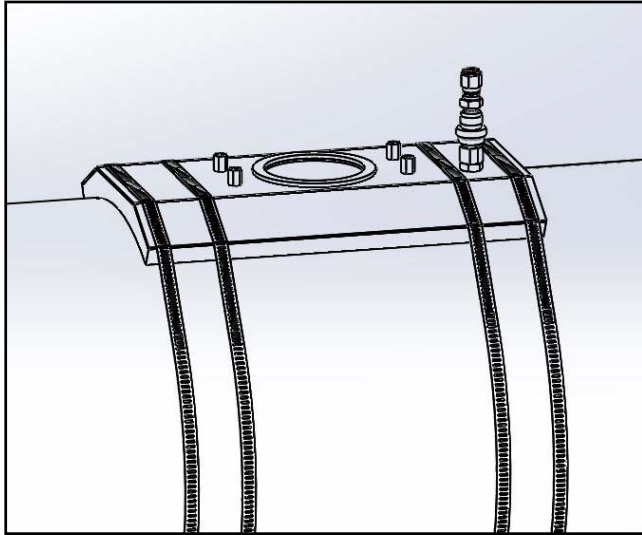

Figure 8
- (5) Once the base assembly is properly aligned, secure it to the duct using large hose clamps (not provided) as shown in Figure 8. When tightening, alternate frequently between the hose clamps to achieve even gasket compression against the duct. Completely tighten down the hose clamps so that the base plate is firmly sealed against the gasket in the bends of the plate. **If there is a gap between the base plate and duct mount gasket anywhere along the perimeter of the plate, untighten the hose clamps and repeat step 6 with more frequent alternating between hose clamps.**